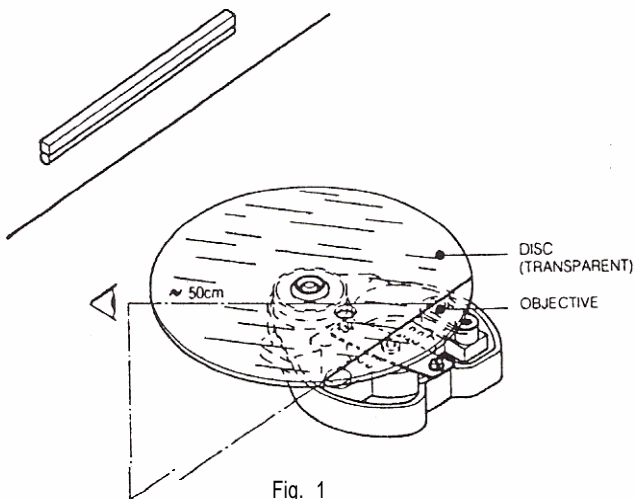

Fig. 1
- Put the arm in mid-position. Turn the set so that the arm is in parallel with the line under the light source (see Fig. 1).